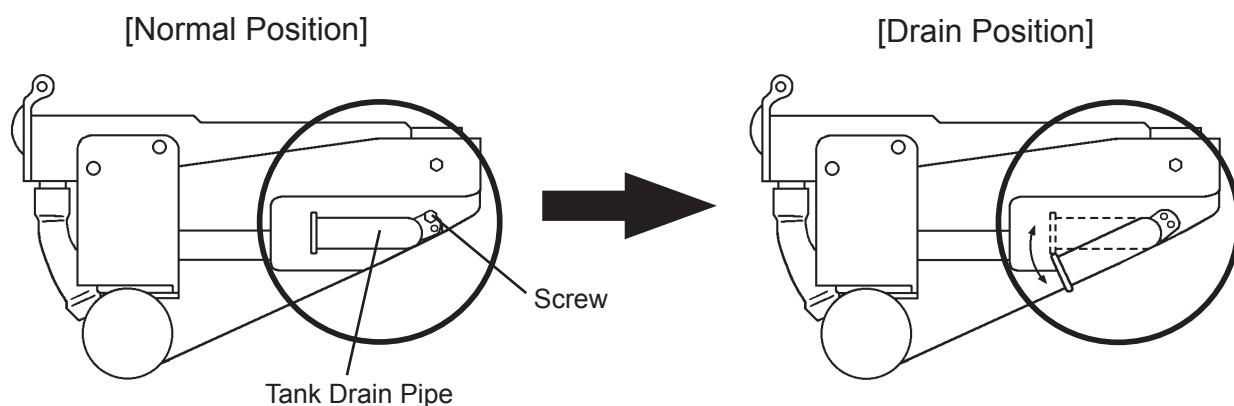

Fig. 11
- 1) Remove the screw located on the front of the water tank. Move the tank drain pipe to the drain position (see Fig. 11). Secure the tank drain pipe with the screw.